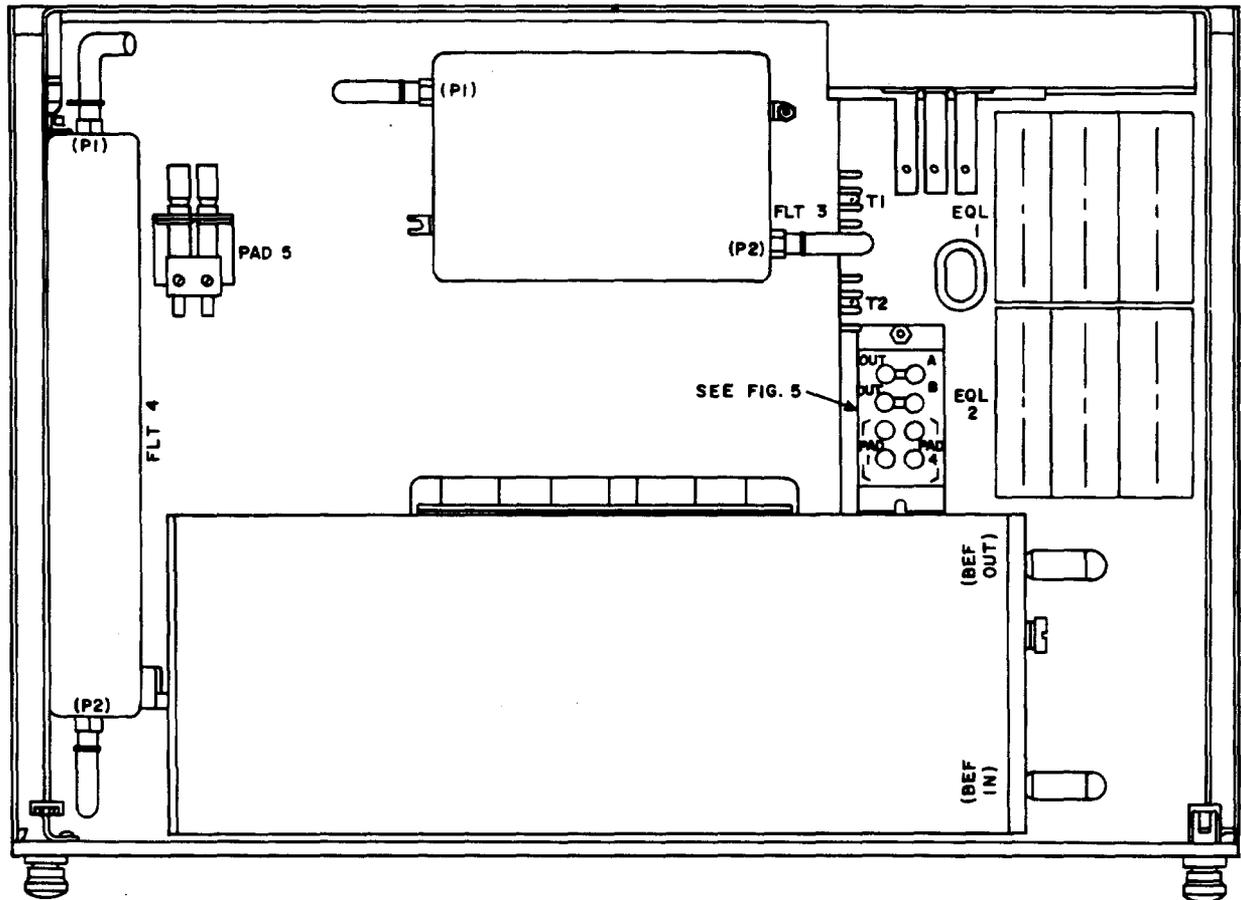

Fig. 4—Top View of Opened Drawer Assembly
- 12 Inside the drawer assembly, (See Fig. 4 and 5.)
- Release the thumb latches; open the drawer assembly. (See Fig. 4 & 5.)